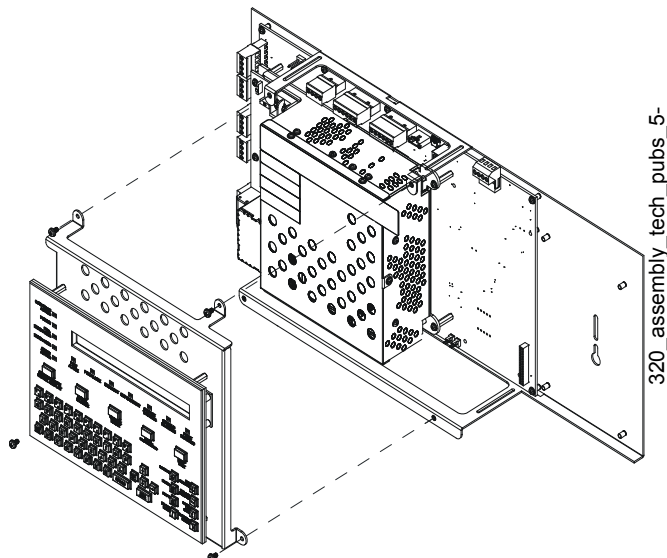

Figure 3.2 Removing and Reinstalling KDM-R2
1. Remove and re-install KDM-R2 as shown in Figure 3.2. It may be convenient to do some basic field-wiring before reinstalling KDM-R2.